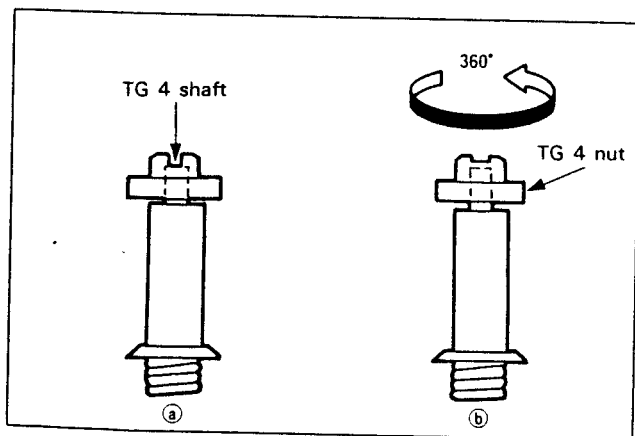

Fig. 2-40.
- 1) Screw TG4 nut until its slot bottom becomes flush with top of TG4 shaft (See Fig. 2-40 (a)).
- 2) Give TG4 nut one full counterclockwise turn. (360°) (See Fig. 2-40. (b)).